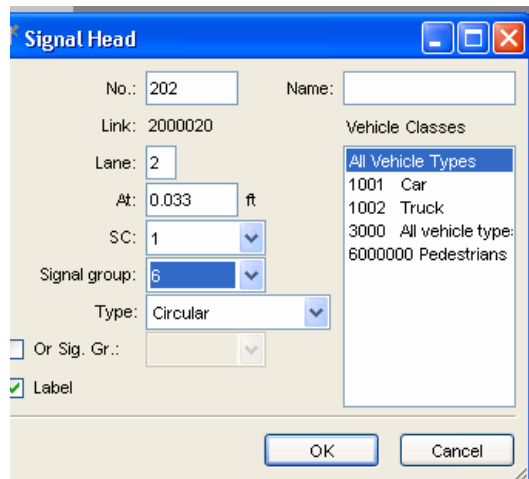

Figure 5, Signal head window.
- “SignalGroup-ID”: the signal group number for a phase in a VISSIM intersection as the highlighted field shown in Figure 5 ; and